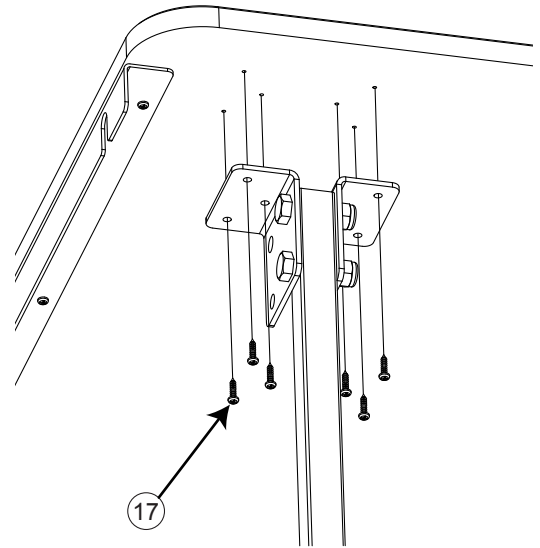

Fig. 11
11. Mount the angle brackets to the underside of the extension table using three M4 x 16 Phillips head screws per bracket (see Fig. 11). The underside of the extension table is pre-drilled to receive the screws. Be careful not to overtighten the screws because you may strip the threads in the wood. Once all the brackets have been mounted to the table, fully tighten the M10 nylon lock nuts that secure the legs to the brackets.